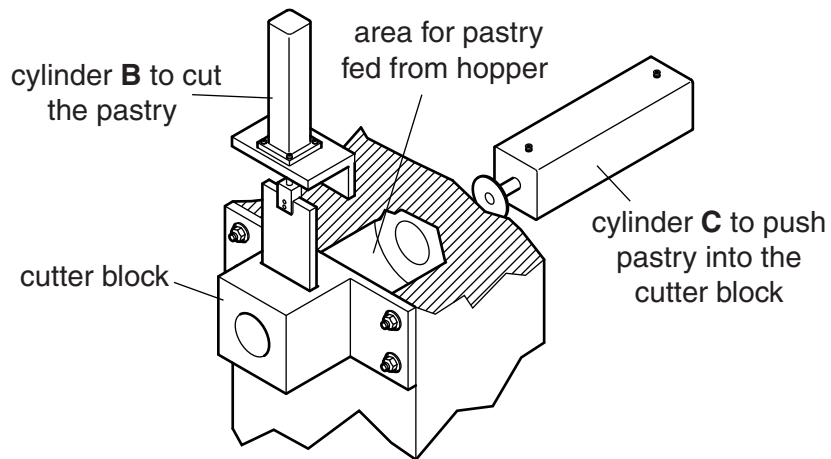

Fig. 4
- 3 To develop the pastry processing machine cylinder **C** is added to push the pastry into the cutter block as shown in Fig. 4.